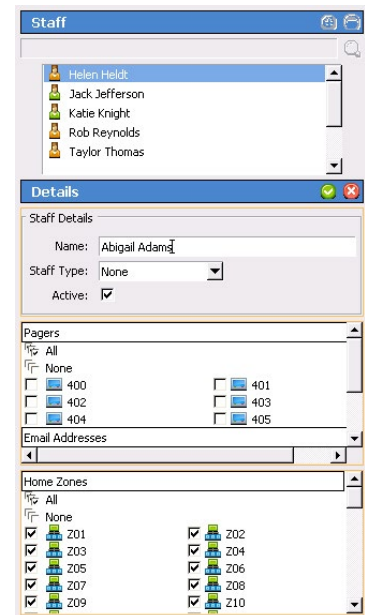

Figure 47: Config Tool Staff Page
2. Choose **Staff** from the page selection pane. The Staff page, shown in Figure 47, will appear.